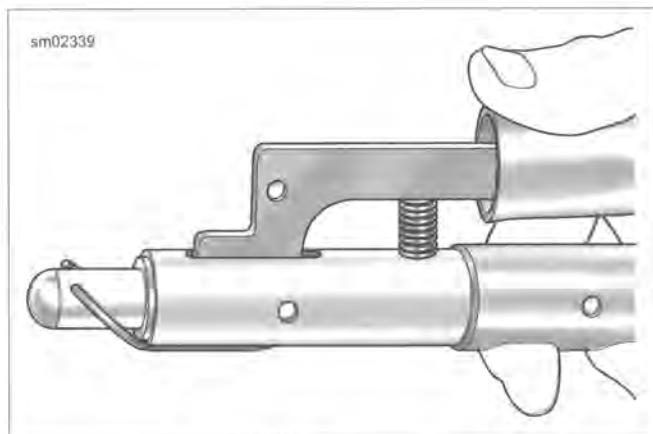

Figure 3-67. Aligning Circlip
- See Figure 3-67. Slide circlip down nose of tool until it contacts claw. Lightly squeeze handles of tool to capture circlip in claw.